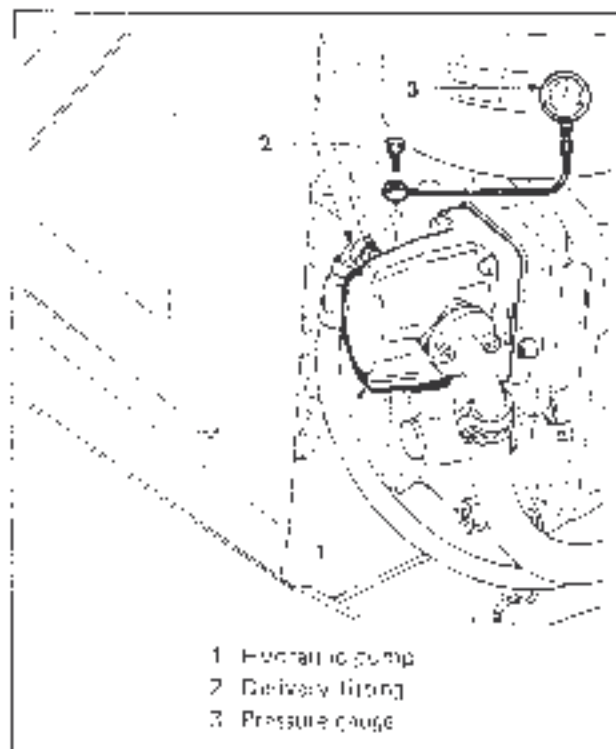

Figure 32. Installation of pressure gauge on the hydraulic pump delivery.
- Install a pressure gauge with 250 kgf/cm² end-of-scale (minimum) in the hydraulic pump delivery fitting (see fig. 32).
Location of hydraulic pump on engine body may be different from that indicated in fig. 32. Location may vary according to the engine installed on tractor.